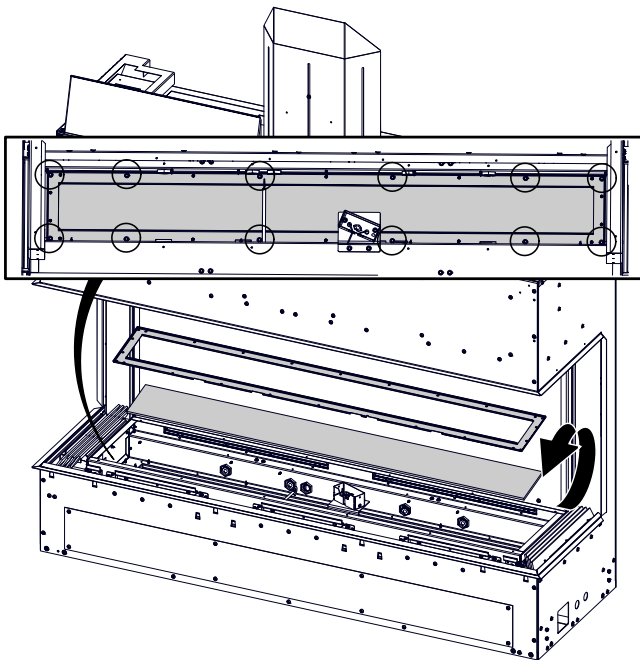

Fig. 2
6. Remove the screws (number of screws varies per model) securing the ember bed bracket and glass and lifting from the appliance (**Fig. 2**).